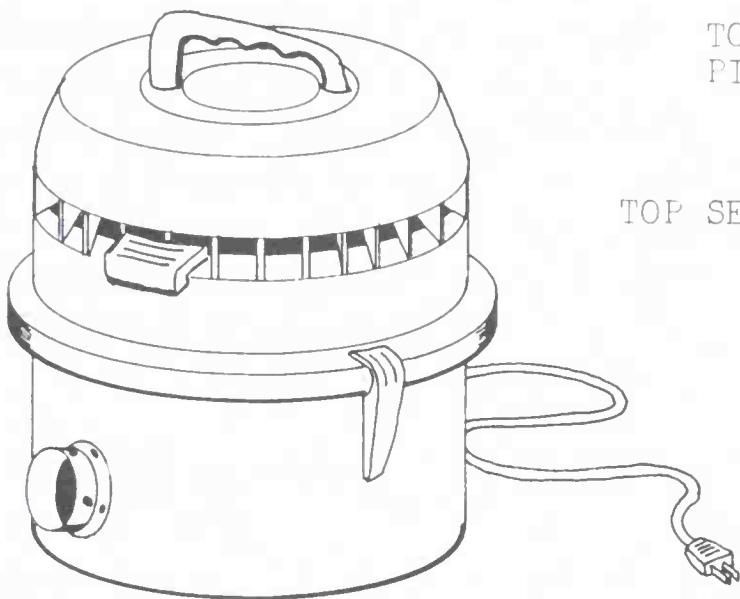

FIG. 5
9. Remove top handle piece (twist counter-clockwise) and place the top section of cleaner upside down on table. (*Figures 5 and 6*)